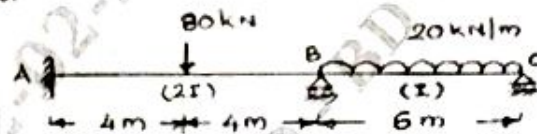

Fig.Q1
- 1 Analyze the continuous beam shown in Fig.Q1 by slope deflection method. Draw BMD, SFD and elastic curve.